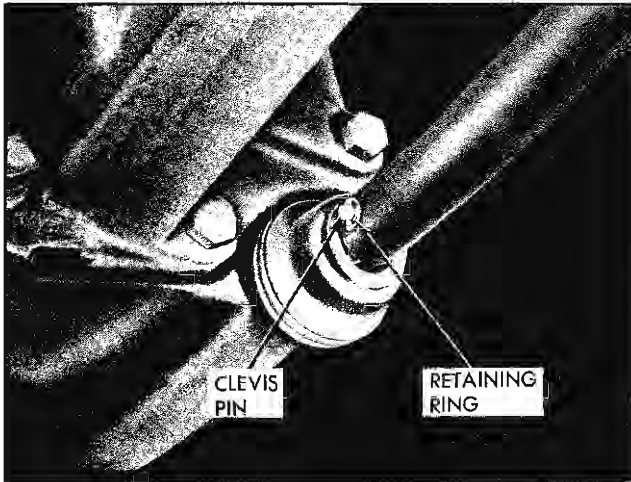

Fig. 7-7 Control Rod Clevis Pin
1. Slide boot toward transmission to expose clevis pin (Fig. 7-7). Remove clevis pin retaining ring and clevis pin.
3. Install control rod on manual shift shaft and secure with clevis pin and retaining ring (Fig. 7-7).